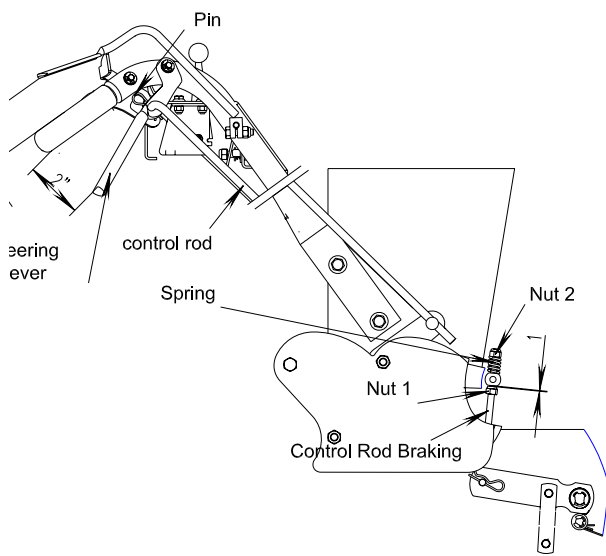

FIG13
- Adjusting brake lever: Put the steering lever into the lock position. Screw nut 1 downwards a bit, then screw nut 2 to make the spring compressed attending a powerful braking. Screw nut 1, and maintain a 1mm clearance to the swivel. See FIG 13